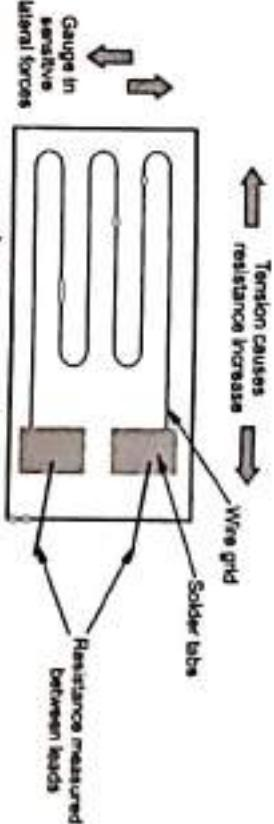

Fig. Q.44.1 Fine wire strain gauge
**Ans. :** • A fine resistance wire diameter 0.025 mm which is looped back and forth on a carrier base as shown in Fig. Q.44.1. This is done to increase the length of the wire so that it permits a uniform distribution of stress. The carrier base protects the gauge from damages. Leads are provided for electrically connecting the strain gauge to a measuring instrument such as Wheatstone bridge.